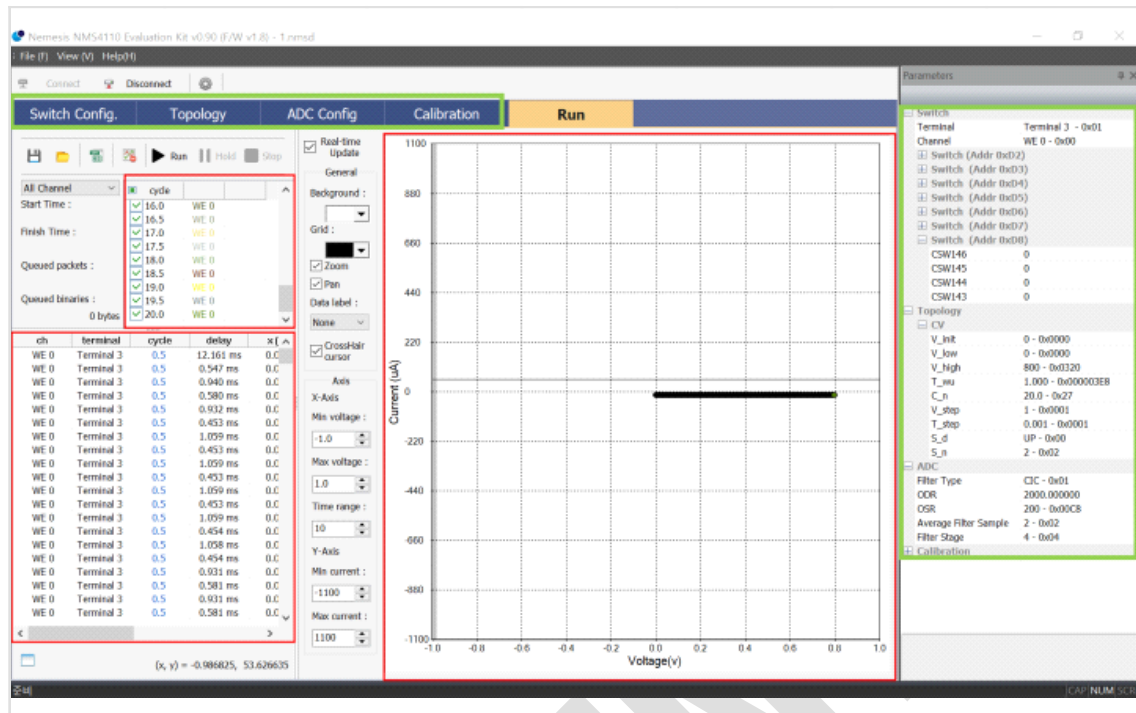

Figure 13 Save/Load Data file(nmsd)
- The results measured data(Red box shown in Figure 13)
- Parameter values(Switch config, Topology, ADC Config, Calibration Values) used for measurement (Green box shown in Figure 13)